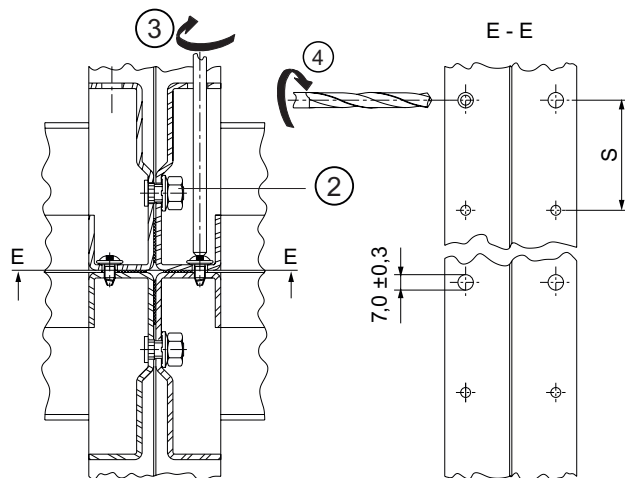

Fig. 8b
- 3 Figure 8b shows the frame connection in a cabinet row. The seal shown is necessary for IP54.
- 4 To join two cabinets of the same height and width back-to-back, enlarge 6 to 10 holes in the back wall of one of the frames from  $\varnothing 4.5$  mm to  $\varnothing 7.0 \pm 0.3$  (Figure 8b).
- 5 Place the frames back-to-back close to each other and bolt them together with sheet metal screws PM 5x10. See Figure 8b.
- Bolt the cross members together at the top and bottom using the lateral round holes as well as the center hole (from 900 mm cabinet widths) using M 8x15 draw-in bolts, 8 contact washers and M 8 nuts. See Figure 8b.